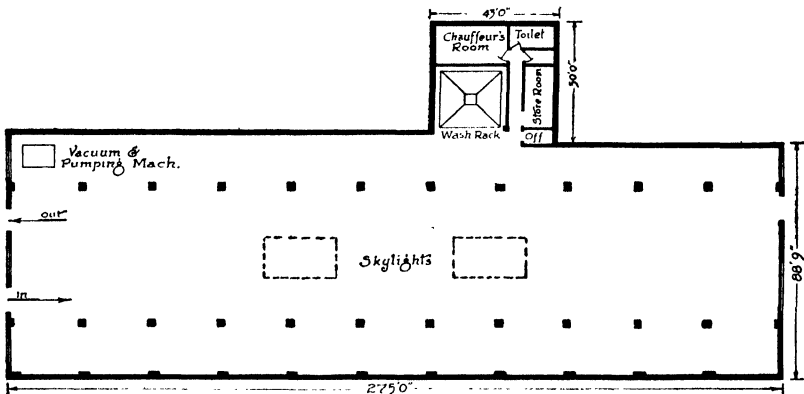

Fig. 19. Very Large Western Garage Which Runs through the Block
**Typical Arrangements.** *Layout 13.* An unusually large garage is shown in plan view in Fig. 19. This is unusual for the reason that it houses only 100 cars and a few odd dead-storage vehicles when its width and length would allow the handling of almost twice that number with ease. It is one story high, without a basement, and has a chauffeur's room, a toilet, an office, a storeroom, and a wash rack, all housed in an L near the center of one side. Aside from vacuum-cleaning machinery, the balance of the entire floor, which runs clear through a city block, is available for cars. This space is 88 feet wide and 275 feet long, sufficiently wide for an arrangement like C, Fig. 1, with an additional width of 8 feet in the center aisle. This arrangement provides for 4 cars per 7 feet of length. The garage shown is 275 feet long, so there could be 39 such strips. Even if 2 cars were omitted to make room for the vacuum machinery, and 4 more in